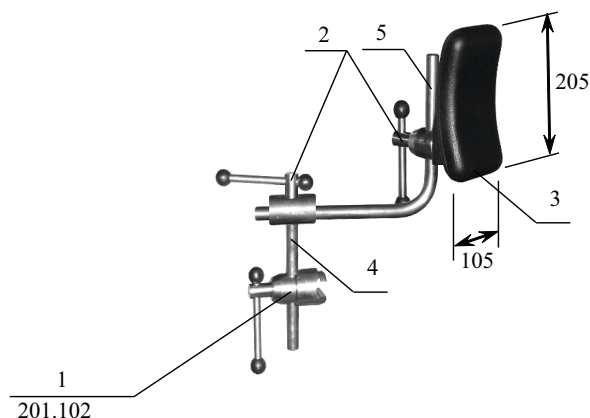

Figure 7. Side support.
7. Lateral support (Figure 7). Profiled 105x205 (mm) molded urethane foam pad 3 with stainless Z-bar support and fasteners for mounting on the table guide rail. Complete with clamp. The position is adjusted along the table top, in height and depth, and rotates around two vertical axes of the Z-shaped support.